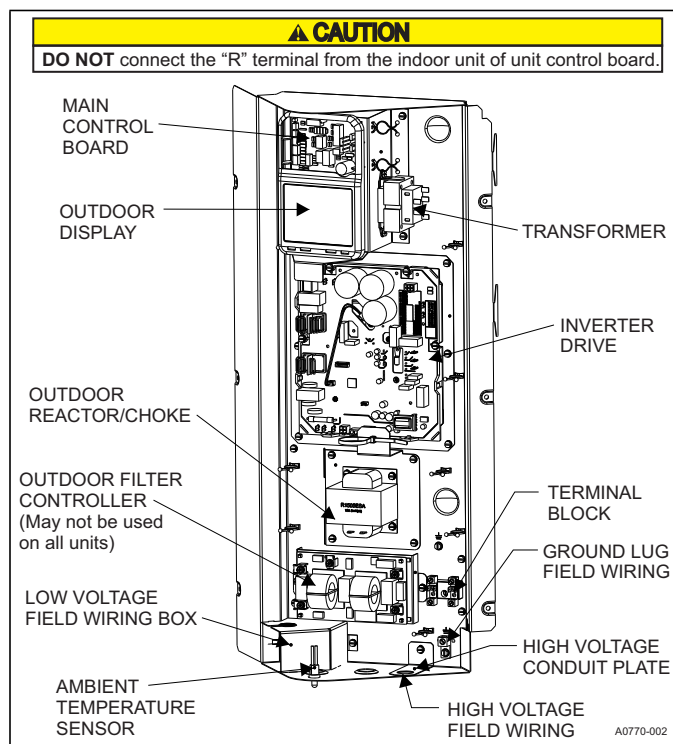

FIGURE 6: Outdoor Unit Control Box
4. Route wires from disconnect through power wiring exit provided and into the unit control box as shown in Figure 1 and view the openings in Figure 6.
1. Route low voltage wiring into bottom of control box through the hole inside the low voltage box. Connect low voltage wiring inside the low voltage box by clipping and discarding the connector plug and stripping the low voltage wires. See Figure 6.